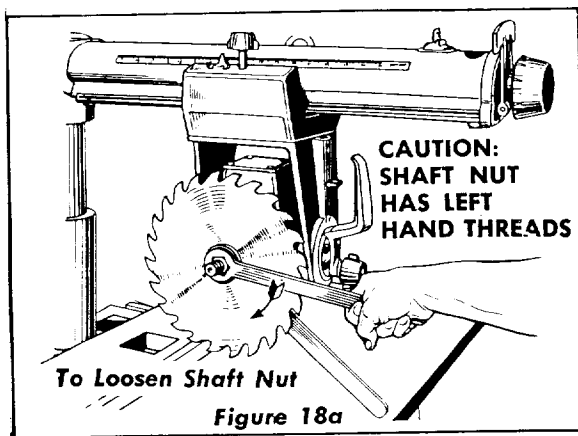

Figure 18a
2. Place saw blade on motor shaft taking care that saw blade teeth are in same direction as shown in Figure 18a.